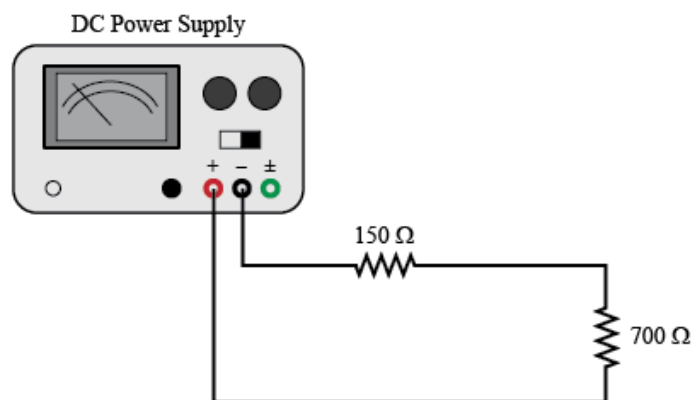

Figure 7
- 3 Make sure the power supply voltage is set to zero. Connect the power supply to the series resistor combination as in Figure 7. Set the power supply to 5 volts. With the multimeter, measure and record the voltage differences ΔV_{700} and ΔV_{150} across each resistor, and the voltage difference ΔV across the combination.